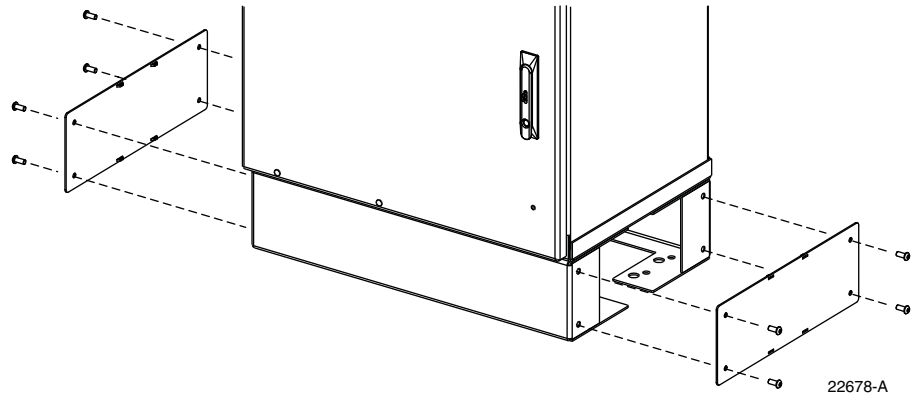

Figure 7. Removing Side Access Covers From Ground Spacer/Riser
1. Use a 3/16-inch hex-key to remove the screws that secure the access covers to the left and right sides of the cabinet ground spacer/riser as shown in Figure 7.